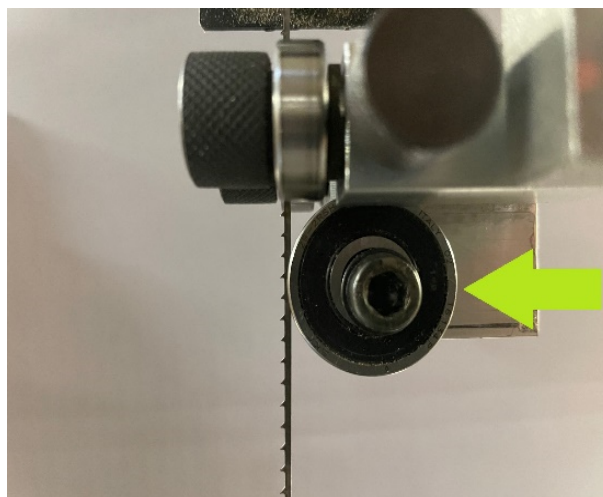

Figure 21
Remove the lower classic cutting bearing. (Machine manual page 11 Fig.21)
- Then precisely adjust the depth of the guide with the bearing screw so that the heel of the band saw enters in the groove of the scroll bearing. (Fig 21)